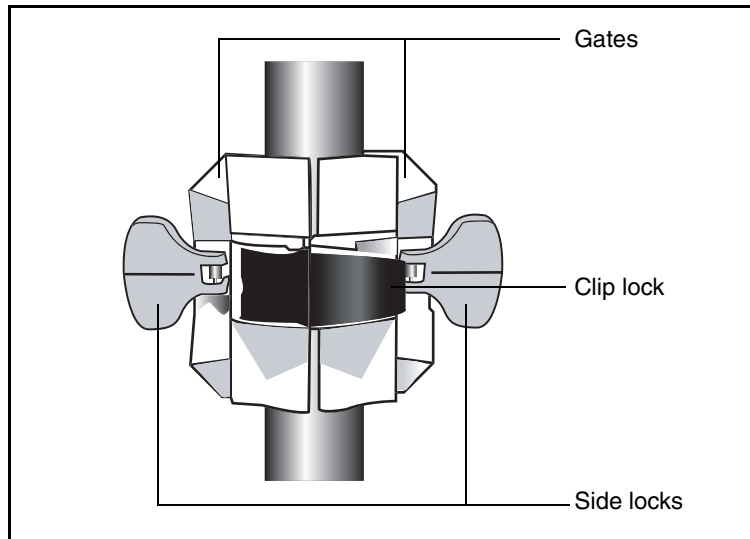

Figure 3.9 Trimble R7 receiver bracket
- c. Holding the receiver in the bracket, pull the side locks back to their original positions, as shown in Figure 3.9.